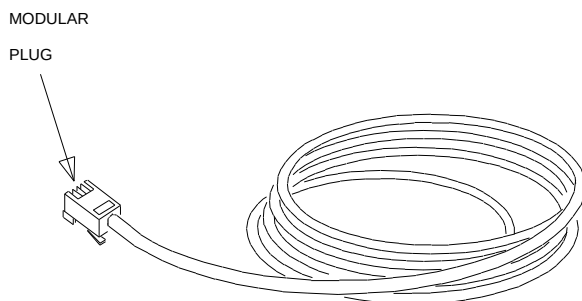

Figure 9-54. 4-Pair Single Modular Plug-Ended Station Cable
- Single modular plug-ended 4-pair station cable(Figure 9-54)—Use this cable between adapters and information outlets that require push-on connections. It can also be used when 4-pair station cables are field-terminated on the 110-type terminal blocks/66-type connecting blocks in the equipment room or satellite closet and modularly connected to information outlets. The station cables are available in the following lengths: